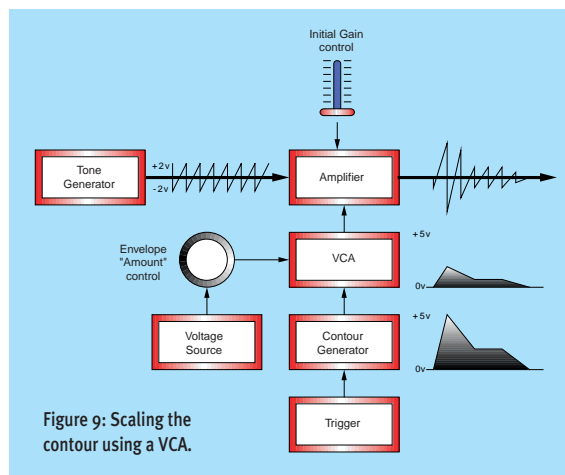

Figure 9: Scaling the
Look at Figure 9 above. As you can see, I have placed a VCA in the control signal path, and this is in turn controlled by a CV that is itself controlled by an attenuator. This VCA applies a Gain (determined by the position of the attenuator) to the ADSR contour so that you can attenuate or amplify it without changing its shape.
► as the Initial Gain shown in Figure 9, you could have LFOs or a host of other controllers modifying the audio signal amplifier's action upon the signal. In this case, you are changing the degree by which the ADSR modifies the signal *relative* to the initial level and any other modifiers in use.
To make this clearer, let's use another example that you will have encountered more often. Figure 10 is similar to Figure 9, except that the CVs are controlling a low-pass filter, not an amplifier. As you can see, the fader at the top of the figure is now the initial level of the filter, most usually called the 'cutoff frequency', and the VCA is controlling the amount of contour applied to this. Clearly, you don't want the filter to open completely for every sound you make, so almost every synth allows you to attenuate the contour using a VCA, as shown.